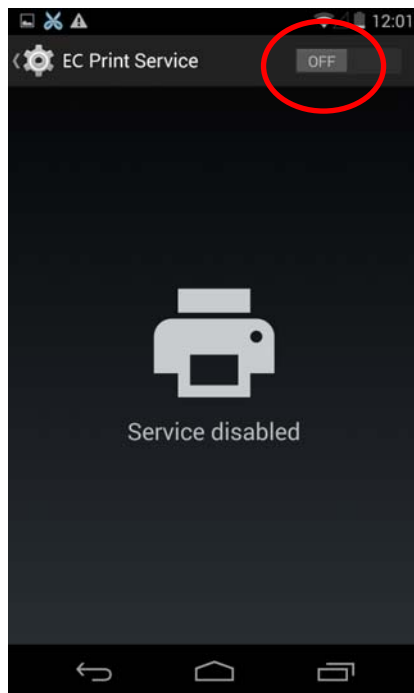

Figure 23
3.4 Switch the “EC Print Service” function from “OFF” to “ON”, as shown in Figure 23.